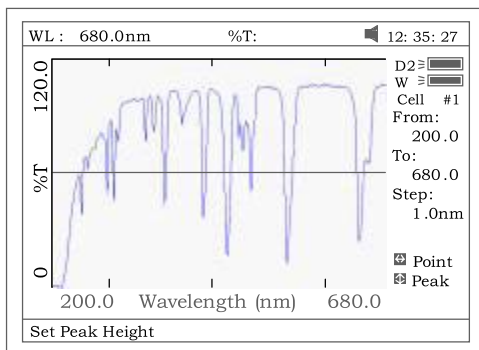

Fig 48
- 6 Press **F3** to search the Abs/%T value of the scan. There are two ways for you to search (Fig 48).